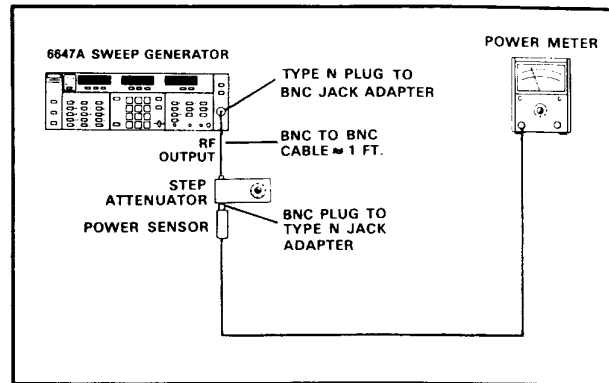

Figure 4-2. Test Setup for Sweep Generator/Step Attenuator Output Power Calibration
1. Set up the test equipment as shown in Figure 4-2, and connect the 8481A Power Sensor to the output of the step attenuator.